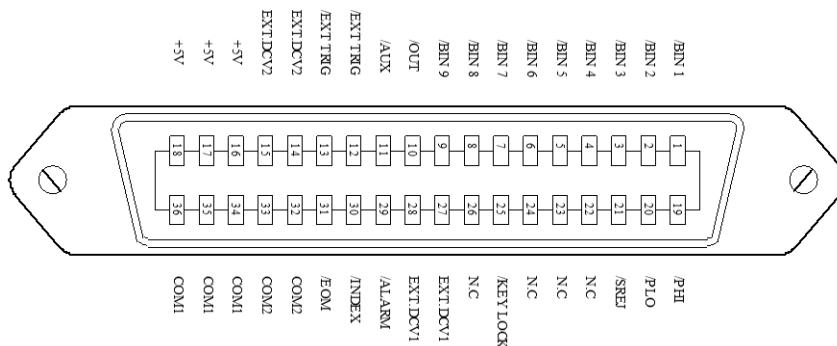
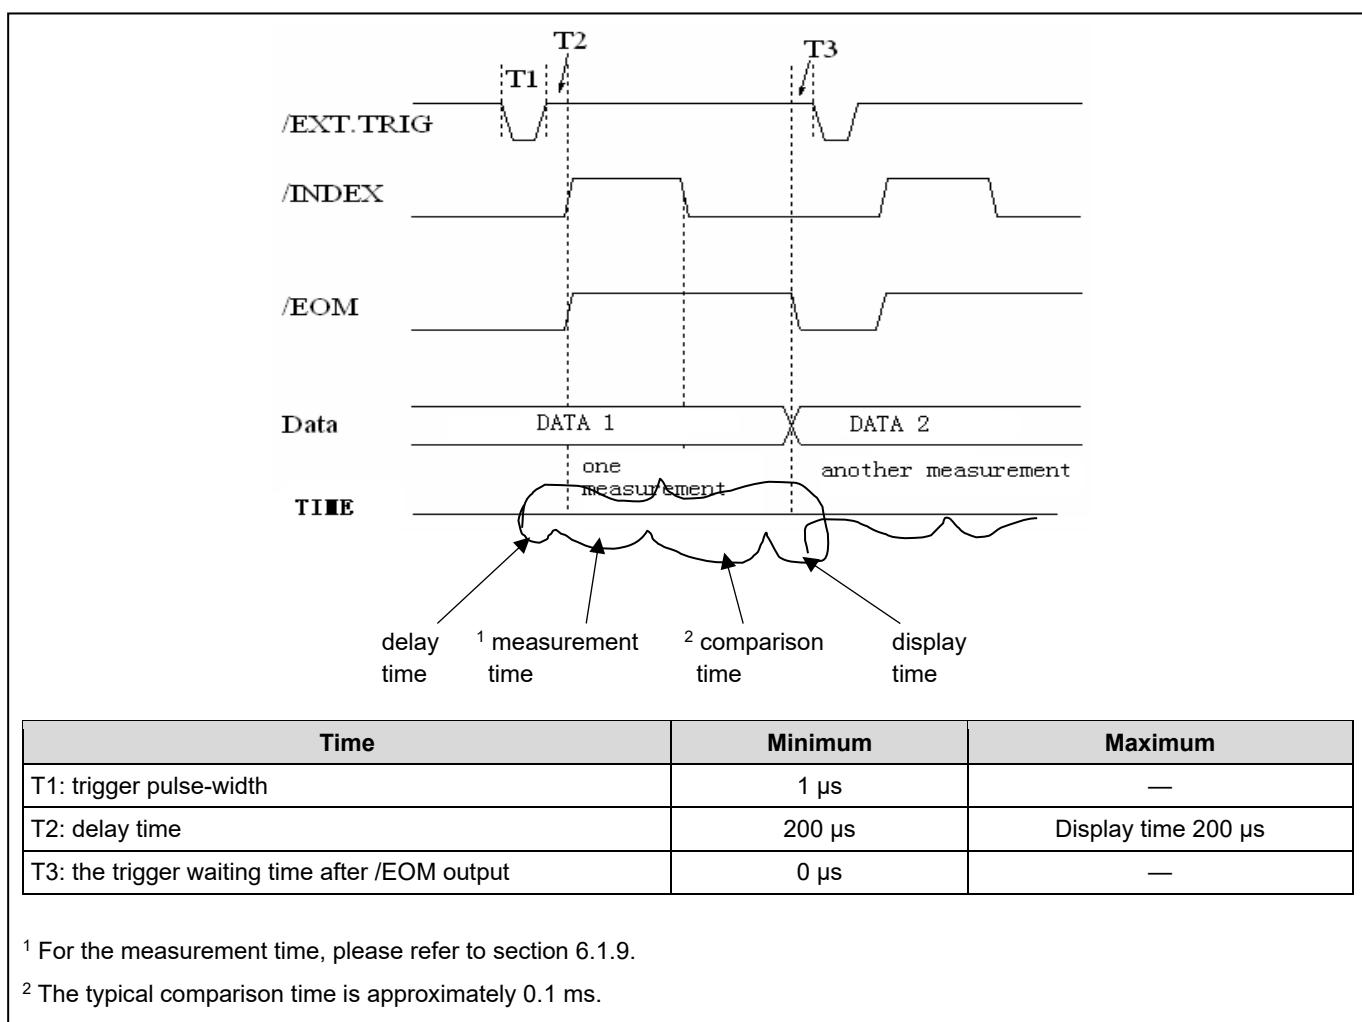

Figure 8-1 Interface Diagram
Figure 8-3 Timing Chart
The interface diagram of the above pins is shown in Figure 8-1. See Table 8-3 for the signal assignment and brief description of the above pins. The timing diagram is shown in Figure 8-3.
**Note:** Figure 8-1 is just the interface definition of the BIN sorting, and the definition of the list sweep sorting is different.